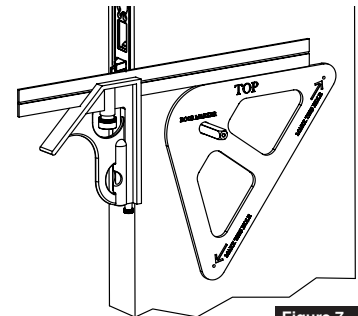

Figure 7
MAKE SURE TEMPLATE IS ORIENTED CORRECTLY. (FIGURE 7)
4. Square template to edge of door. (Figure 7)